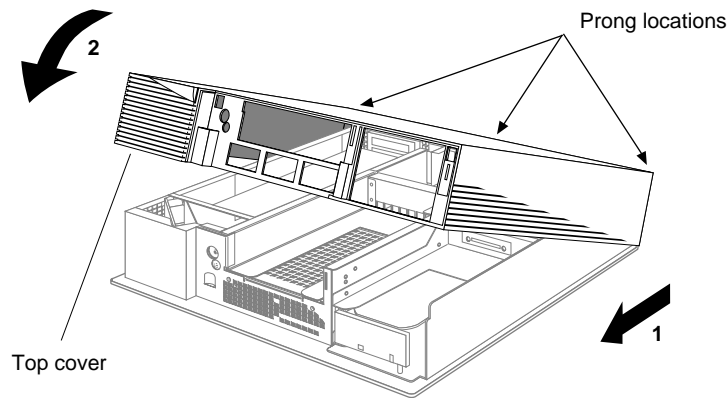

Figure 5-4 Replacing the Top Cover on the Indigo² Chassis
- Place the prongs on the underside of the cover into the slots under the top ridge of the backplane of the chassis, as shown in Figure 5-4.